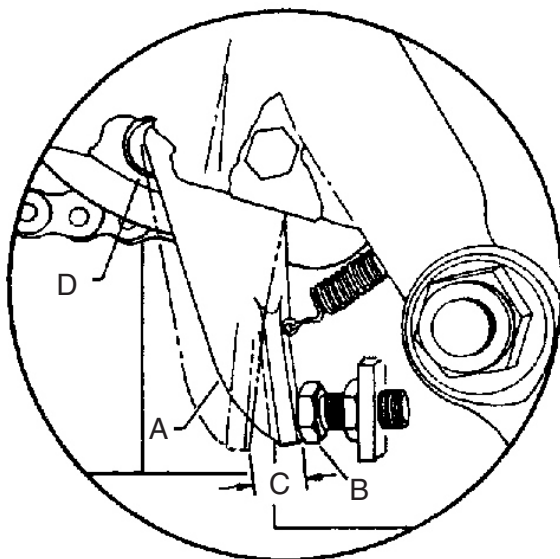
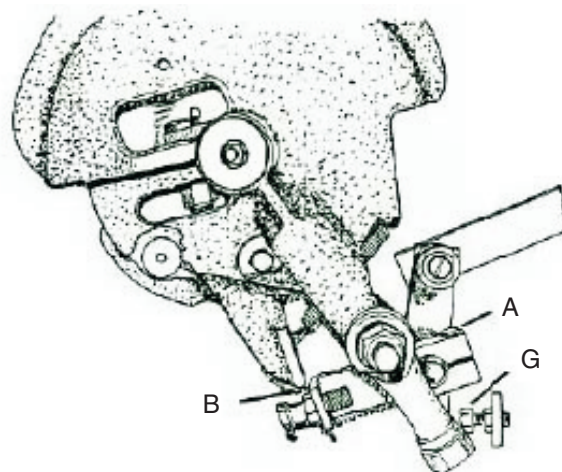

Figure 104. Clutch Pawl
Figure 105. Tying Holder Bolt
2. Loosen clamp bolt "A," (see Figure 105) to position stop bolt "B," (see Figure 104) square to the face of clutch pawl "A," (see Figure 104).
3. The clutch pawl (A) must have approximately 1/2" clearance at (C) when depressed. The clutch pawl roller should have 1/8" clearance at (D) when the notch in the clutch disc is not near the clutch pawl roller. Adjust with bolt (B) (see Figure 104).
4. Trip the knotter clutch and rotate the clutch. The clutch pawl must have 1/8" clearance from the stop lever at (B). Adjust with stop bolt (G) (see Figure 105).